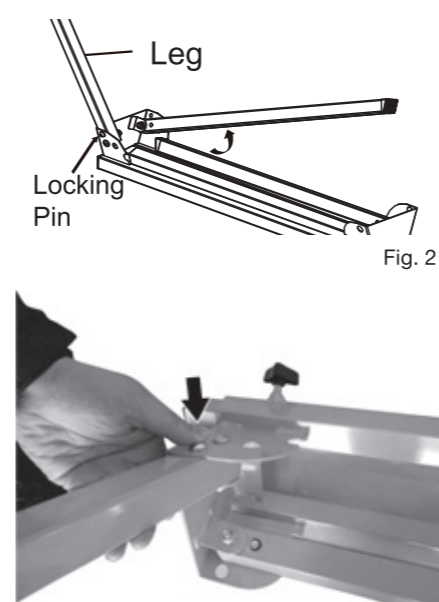

Fig. 4
- Install the work supports (Fig. 4&5)**
- Slide the work support (2) through the hole in the top of the work support mounting bracket.
- Insert the height adjust knob (8) through the small hole on the side of the work support mounting bracket and tighten the knob to secure the work support in the desired height.
- Extend the rail (3) to the desired position.
- Insert the extension adjust knob (4) through the small hole on the side of the frame.